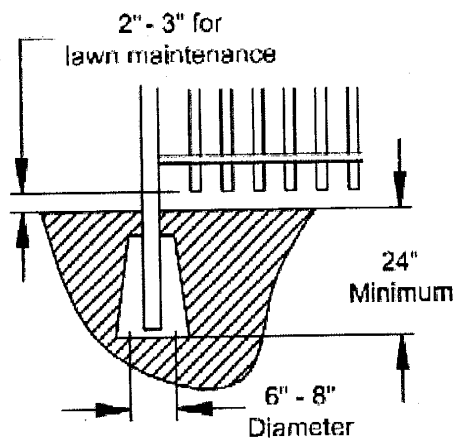

Fig. 2
1. Fence should be installed 2 - 3 inches off of the ground to allow gates to function properly, and to allow maintenance of the grass - Figure 2
4. When digging holes to install Alumi-Guard Fence, holes should be 6" to 8" in diameter and at least 24" deep. Refer to Figure 2. In areas where freezing is a factor, fence posts need to be below the frost line. It is also a good practice to "bell out" the bottom of the hole to prevent posts from heaving.